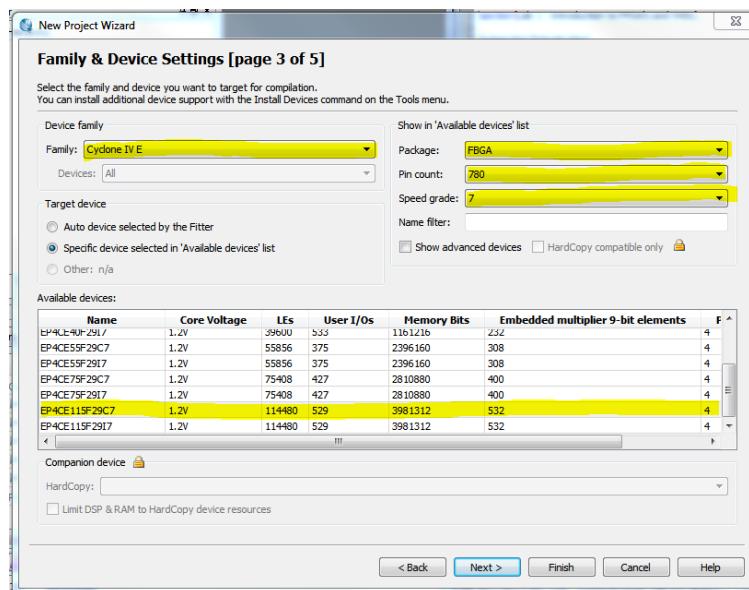

Figure 2: Device selection menu
9. Under Device Family select *Cyclone IV E*, set the package to *FBGA*, pin count to *780*, and speed grade to *7*. In the Available devices list, look for and select *EP4CE115F29C7* as shown in figure 2.